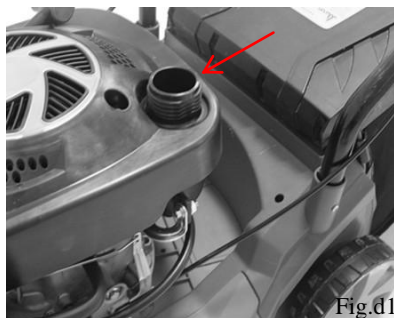

Fig.d1
- 1) Clean the area around the petrol cap and remove the cap (Fig.d1);